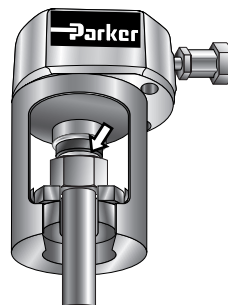

Figure 50
4. Close the pressure relief valve on the side of the hand pump. Pump the hand pump until the ram reaches a positive stop. At this point an increase in resistance of the handle will be felt and the nut will bottom against the shoulder of the body die Figure 50.